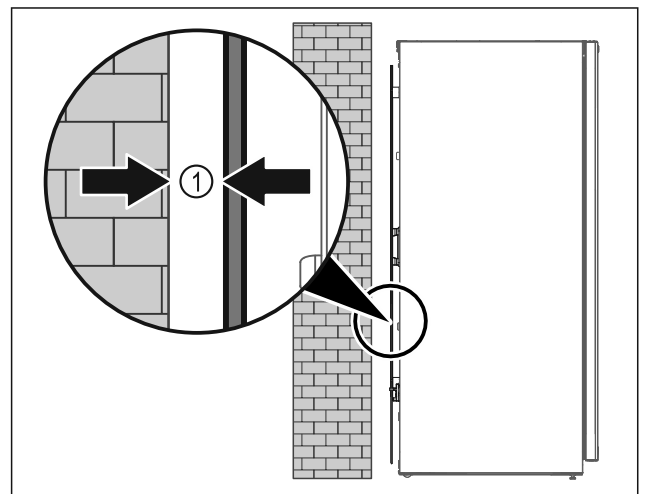

Fig. 4
- ▶ Set up the appliance either free-standing or directly against a wall at a minimum distance of 5 mm Fig. 4 (1).